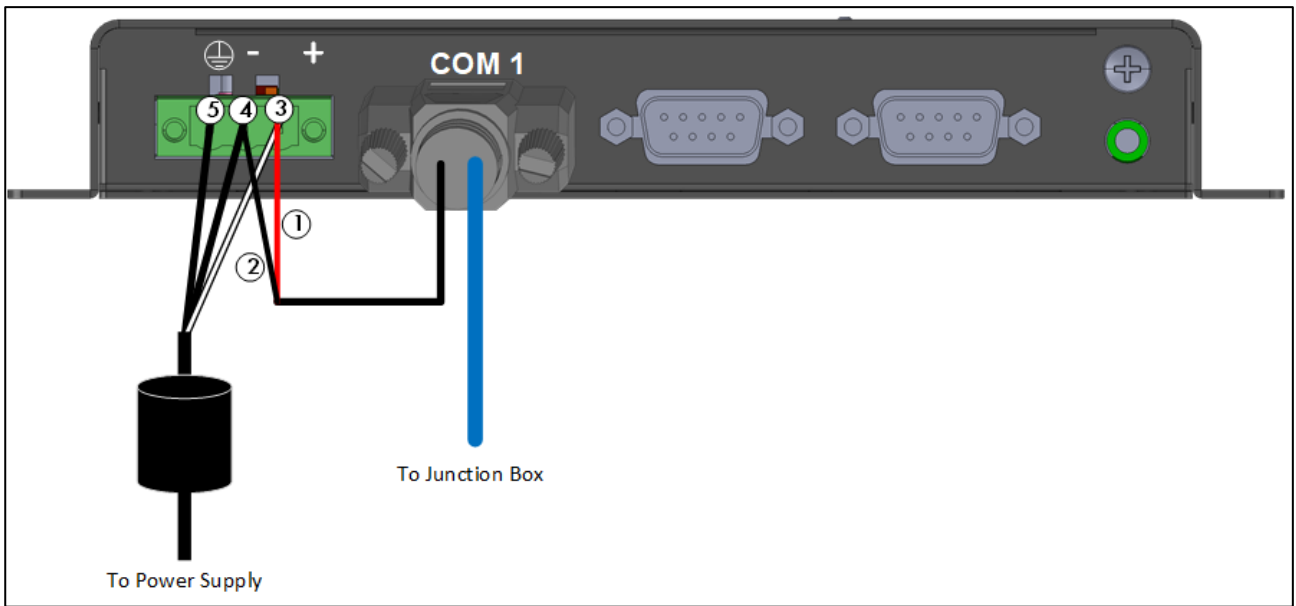

Figure 13: Junction Box Wiring to CommBox
2. Insert the two wires coming from the Junction Box cable into the ports (Figure 13).
\*These wires come preconnected to the CommBox. If they need to be reattached, place the white cable (#3) in the port as shown in Figure 13. Place both black cables into the ports as shown in Figure 13; either cable can be placed in either port.